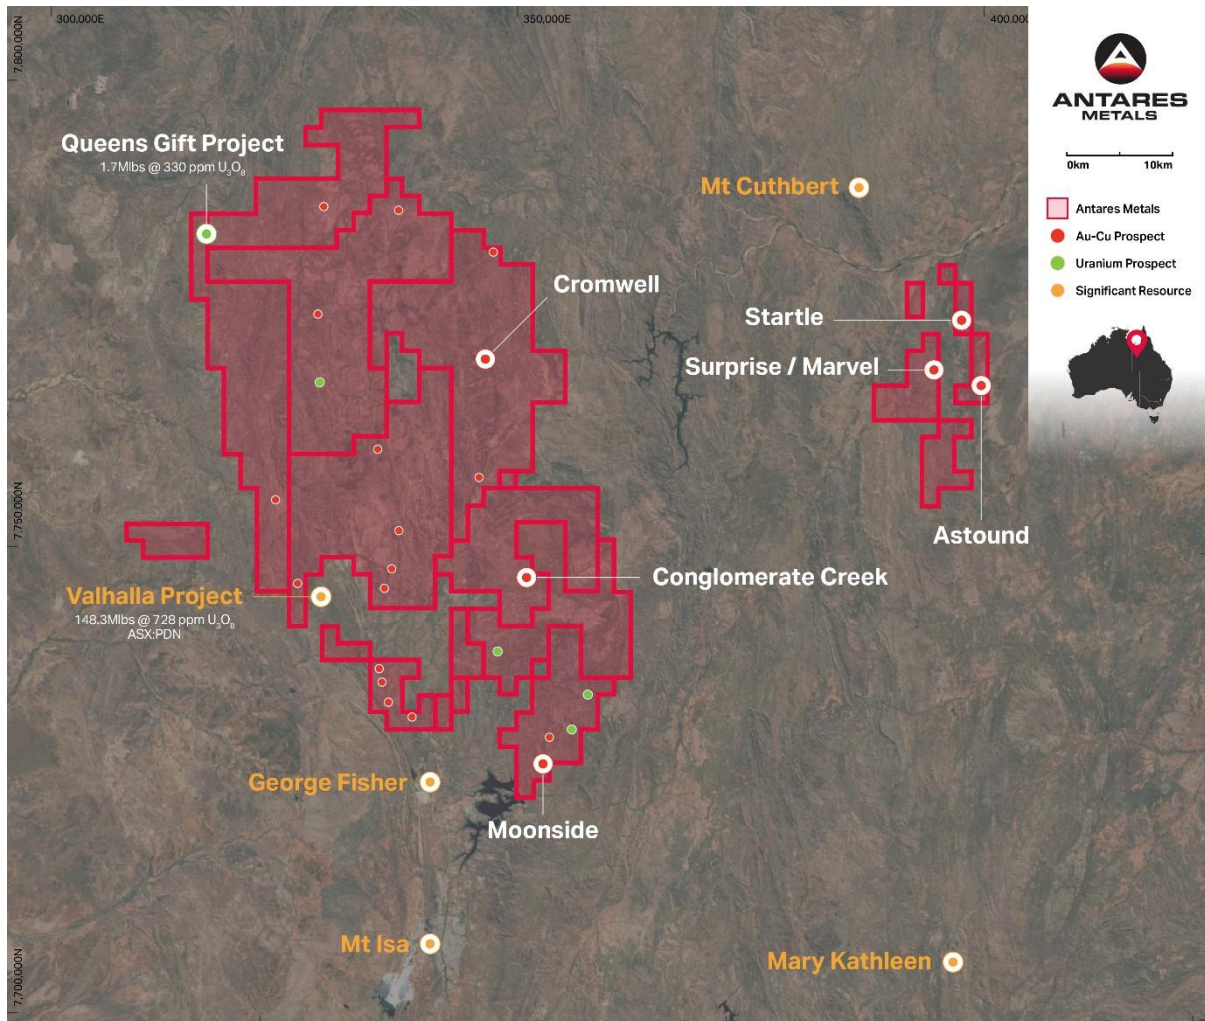
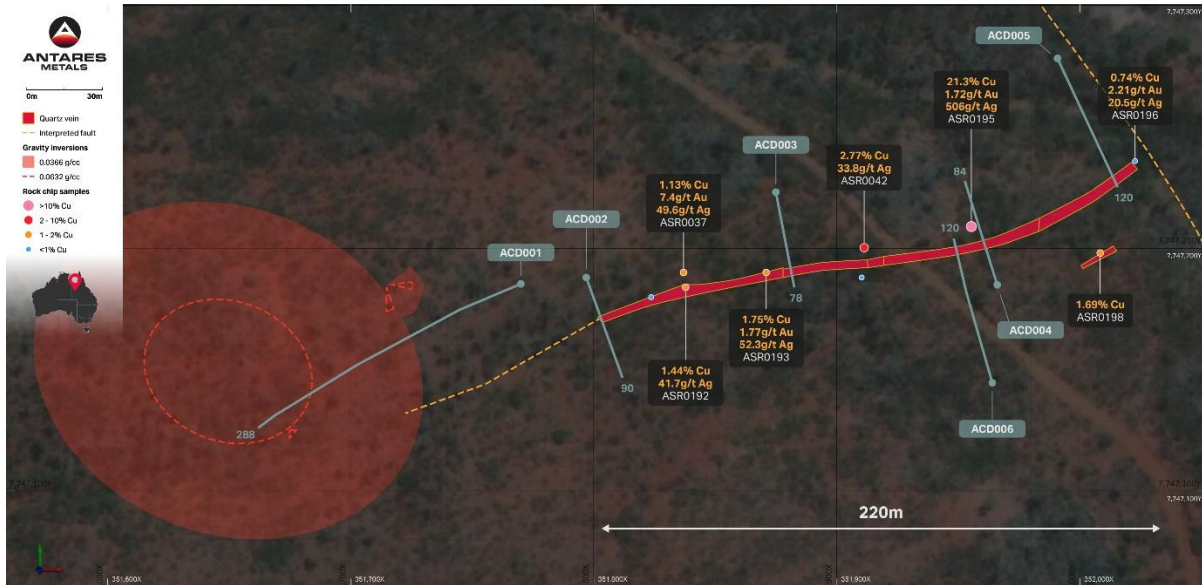

Figure 1: Location Map Mount Isa North Copper Project
Figure 2: Conglomerate Creek Target 2 Vein System rock chip results and drill collar locations
Antares Metals Ltd (ASX: AM5) (Antares, AM5 or the Company) is pleased to provide an exploration update for its 100%-owned Mount Isa North Copper Project located in northwest Queensland (see Figure 1), with the completion of a maiden reverse circulation (RC) drilling program at the Conglomerate Creek Target 2 prospect. The program is the first sub-surface exploration across a broad, previously untested intrusive complex, testing beneath the high-grade copper-gold-silver mineralisation mapped and sampled by Antares in 2025 (see Figure 2).
Antares completed a 780m, six-hole RC program at Conglomerate Creek Target 2 in June 2026 (see Figure 2), designed to test beneath the known surface mineralisation, as well as a dense gravity anomaly considered to be a potential source for mineralisation mapped by Antares geologists.